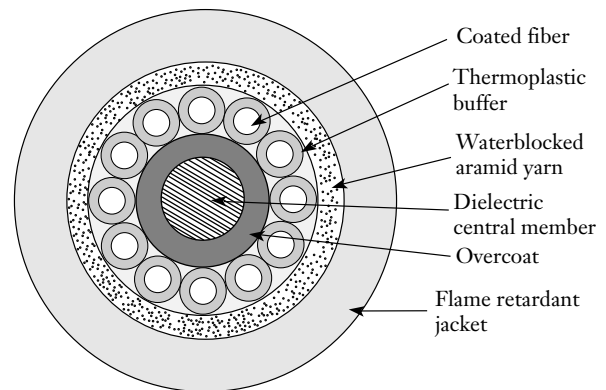

Figure 1
**1.2** Corning Cable Systems FREEDM ONE cable is a rugged, high performance cable designed for various indoor/outdoor distribution applications (Figure 1).